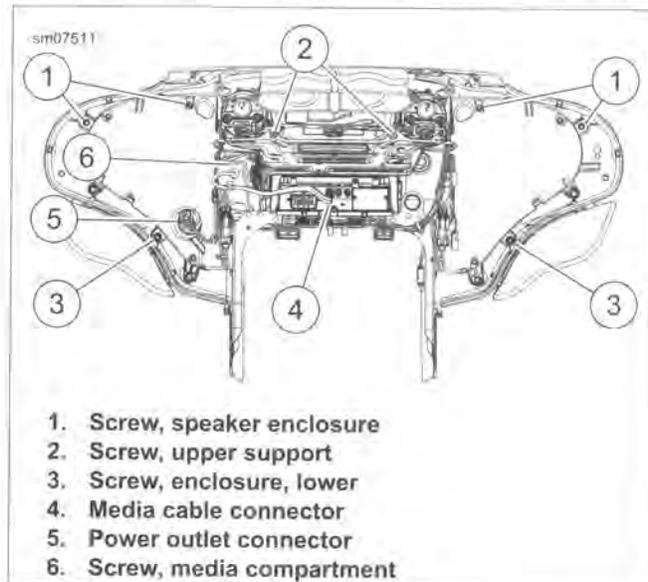
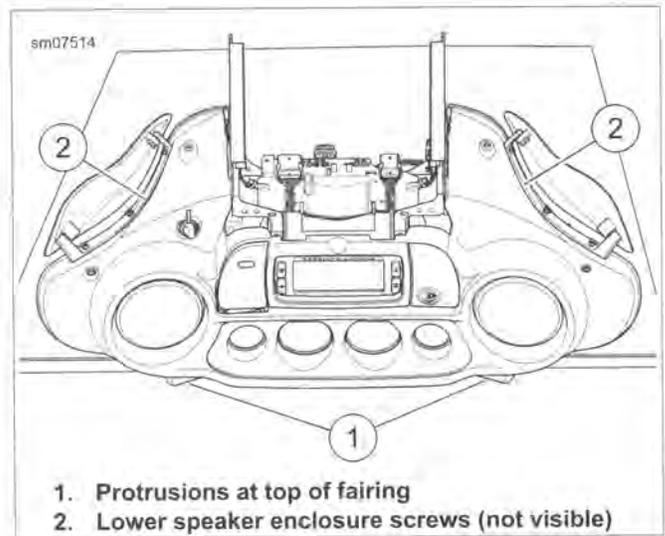

Figure 2-142. Inner Fairing
Figure 2-145. Inner Fairing Assembly
- See Figure 2-142. Remove two upper support screws (2).
- Remove four enclosure screws (1). Do not remove screws (3) at this time.
- See Figure 2-145. Flip fairing assembly with top near the edge of the protective surface. Lay with protrusions at top of fairing hanging off edge of surface.
- Remove two lower enclosure screws (2).
9. See Figure 2-145. Place inner fairing onto structure assembly. Adjust position so the protrusions at the top of the fairing hang off the edge of the work surface. Start lower speaker enclosure screws (2).
11. See Figure 2-142. Install two screws (2). Tighten to 10-20 **in-lbs** (1.1-2.2 Nm).
12. Install four screws (1). Tighten screws (1, 3) to 48-60 **in-lbs** (5.4-6.8 Nm).